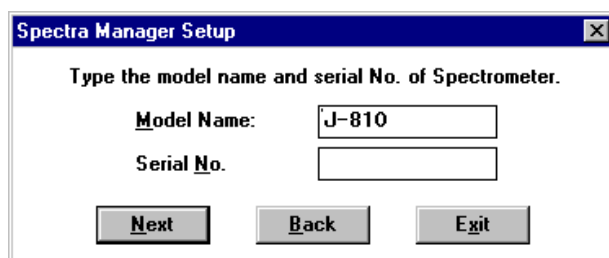

Fig. 9.12 Model name and serial number input screen
- (5) Click the <Continue> button. The screen shown in Fig. 9.12 appears.